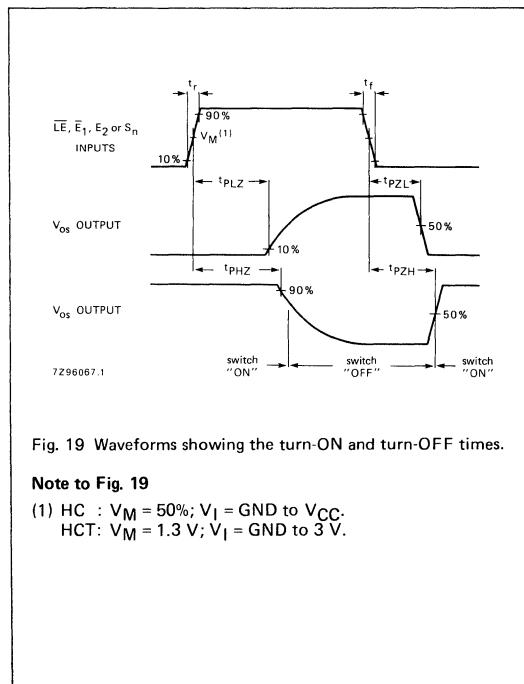

Fig. 19 Waveforms showing the turn-ON and turn-OFF times.
**Note to Fig. 19**
- (1) HC :  $V_M = 50\%$ ;  $V_I = GND$  to  $V_{CC}$ .